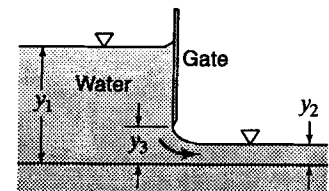

Figure X6.4.2
6.4.3 Refer to Fig. X6.4.2. Find the horizontal thrust of the water on each foot of width of the sluice gate, given $y_1 = 7 \text{ ft}$, $y_2 = 1.2 \text{ ft}$, and $y_3 = 1.4 \text{ ft}$. Neglect friction.